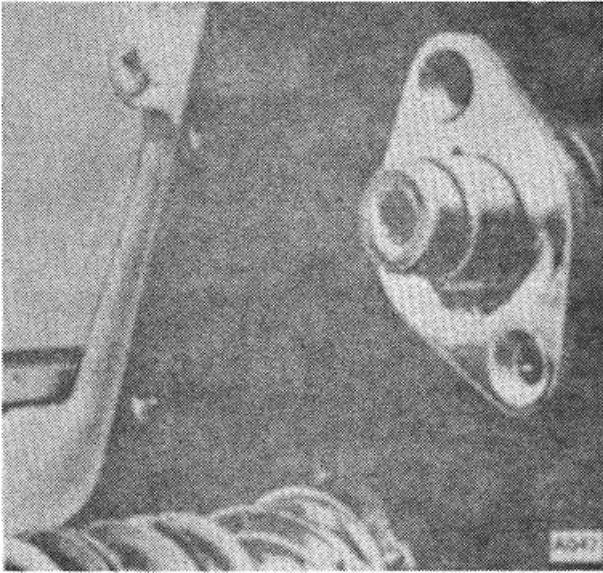

Figure 46.
6. Examine the camshaft thrust plate Figure 46, carefully for scoring and wear.